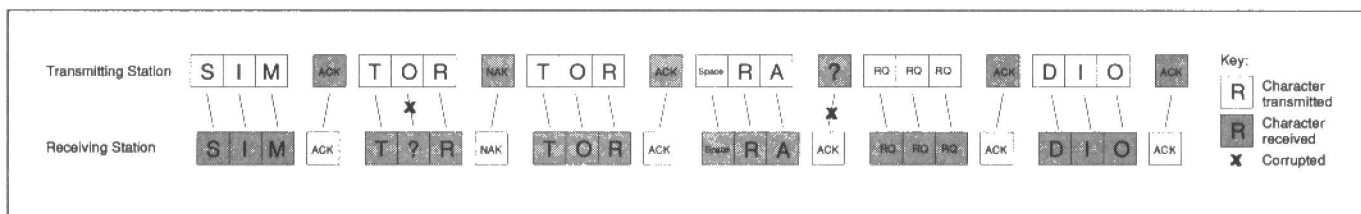

Figure 3: a diagram of a typical SITOR mode A transmission, showing the ACK and NAK codes used for error correcting
unusual as it can only work between a pair of stations both equipped for transmission and reception. In general terms, the originating station sends a block of characters and then switches back to receive and awaits a response from the receiving station. The receiving station responds with either an acknowledge code (ACK) or a negative acknowledge code (NAK) depending on whether the block consisted solely of valid characters or whether it contained a corrupted character. If the originating station receives an ACK code, it transmits the next block of characters. If a NAK code is received, the originating station re-transmits the corrupted block. In mode A, the blocks are three characters long and the criteria for deciding whether a character is valid is whether it corresponds to the 4M/3S pattern. The final bit of sophistication in mode A is that it allows for the ACK or NAK code to become corrupted. If an ACK or NAK code isn't received following the transmission of a block, the originating station sends a block consisting of special repeat characters (RQ) which requests the receiving station to re-send the ACK or NAK code. A typical SITOR mode A transmission is shown diagrammatically as **figure 3**.